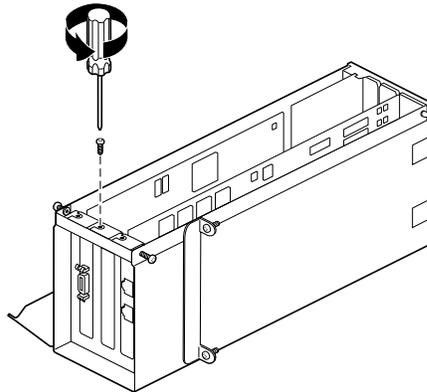

Figure 4-14 Removing the Blank I/O Panel Screw
1. Remove the screw from the blank I/O panel that covers the slot you want to use for the PCI board, as shown in Figure 4-14.